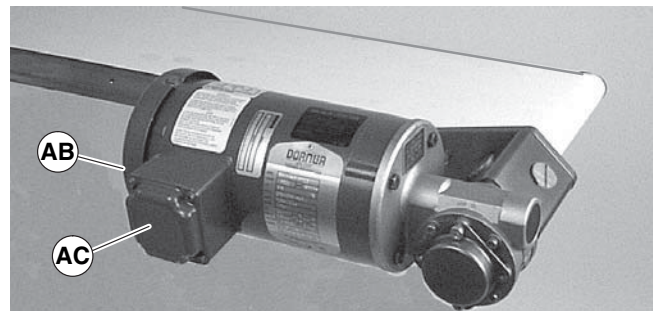

Figure 22
- a. Loosen terminal box screws (Figure 22, item AB) and remove cover (AC).